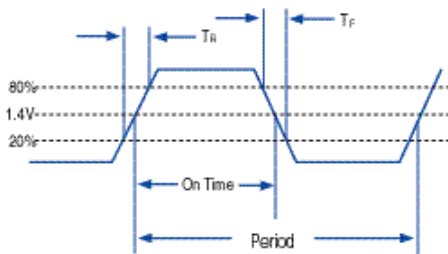
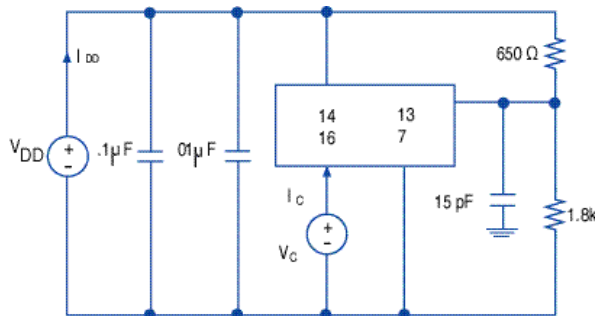

Figure 1.
Figure 2.
- Figure 1 defines these parameters. Figure 2 illustrates the equivalent five gate TTL load and operating conditions under which these parameters are tested and specified. Loads greater than 15 pF will adversely effect rise/fall time as well as symmetry.